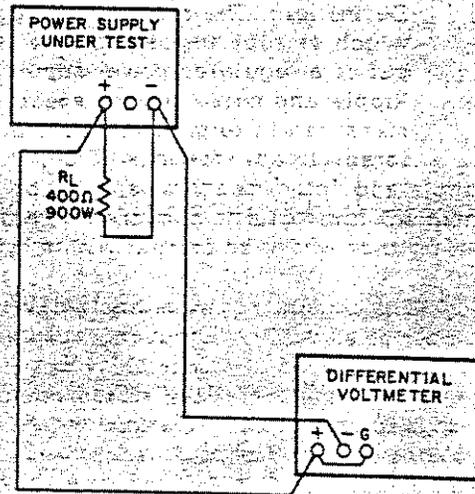

Figure 5-3. Constant Voltage Test Setup
- a. Connect load resistance across rear output terminals of supply. (Figure 5-3 shows values of load resistor used throughout the performance tests.)
- a. Connect test setup as shown in Figure 5-3.
- c. Connect test setup shown in Figure 5-3.
- Connect test setup shown in Figure 5-3.